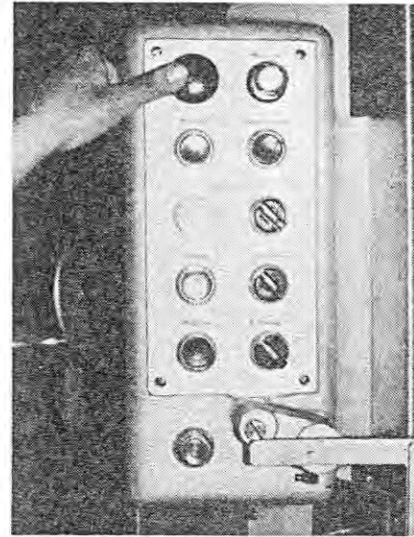

Fig. 132
1. Push in the emergency switch for the time the format is changed (Figure 132).